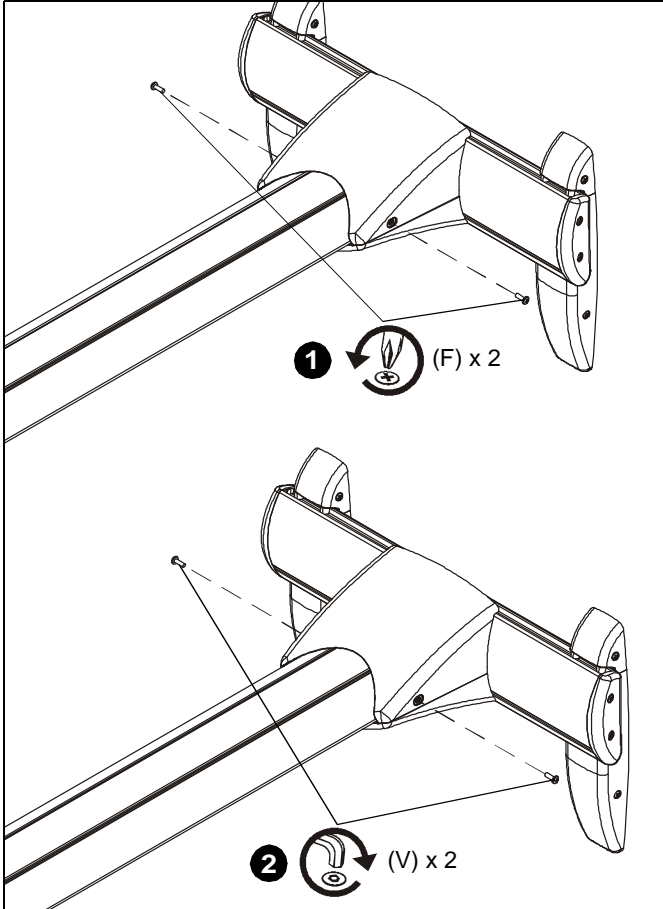

Figure 69
1. Remove two #8-32 x 1/2" Phillips pan machine screws (F) holding mount covers on projector arm. (See Figure 69)
2. Install two #8-32 x 1/2" button head security screws (V) into holes on mount cover. (See Figure 69)